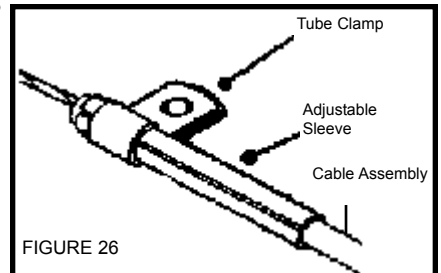

FIGURE 26
- a. Before using the **TUBE CLAMP** slide the **ADJUSTABLE SLEEVE** into a location on the **CABLE ASSEMBLY** so you can center the **TUBE CLAMP** to avoid slippage. **Figure 26**